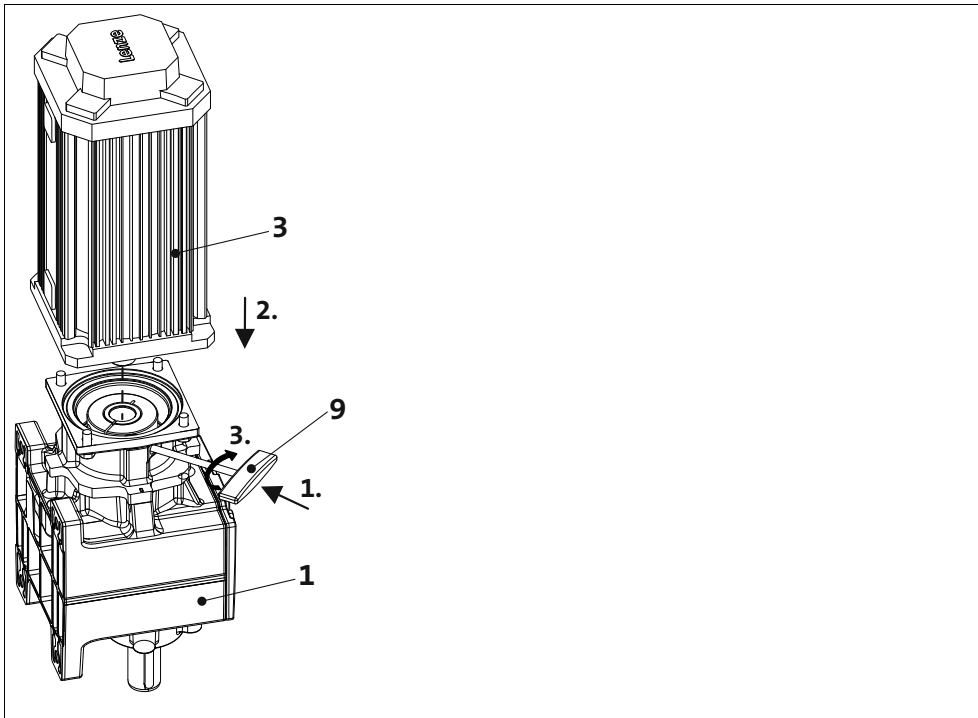

Fig. 6 Mounting of motor and gearbox
4. Afterwards, insert the wrench (9) into the terminal screw (8) of the clamping ring (7) and leave it there (Fig. 6). The terminal screw (8) must only be tightened to such a degree that the clamping ring (7) does not move but the shaft is not tightened yet!